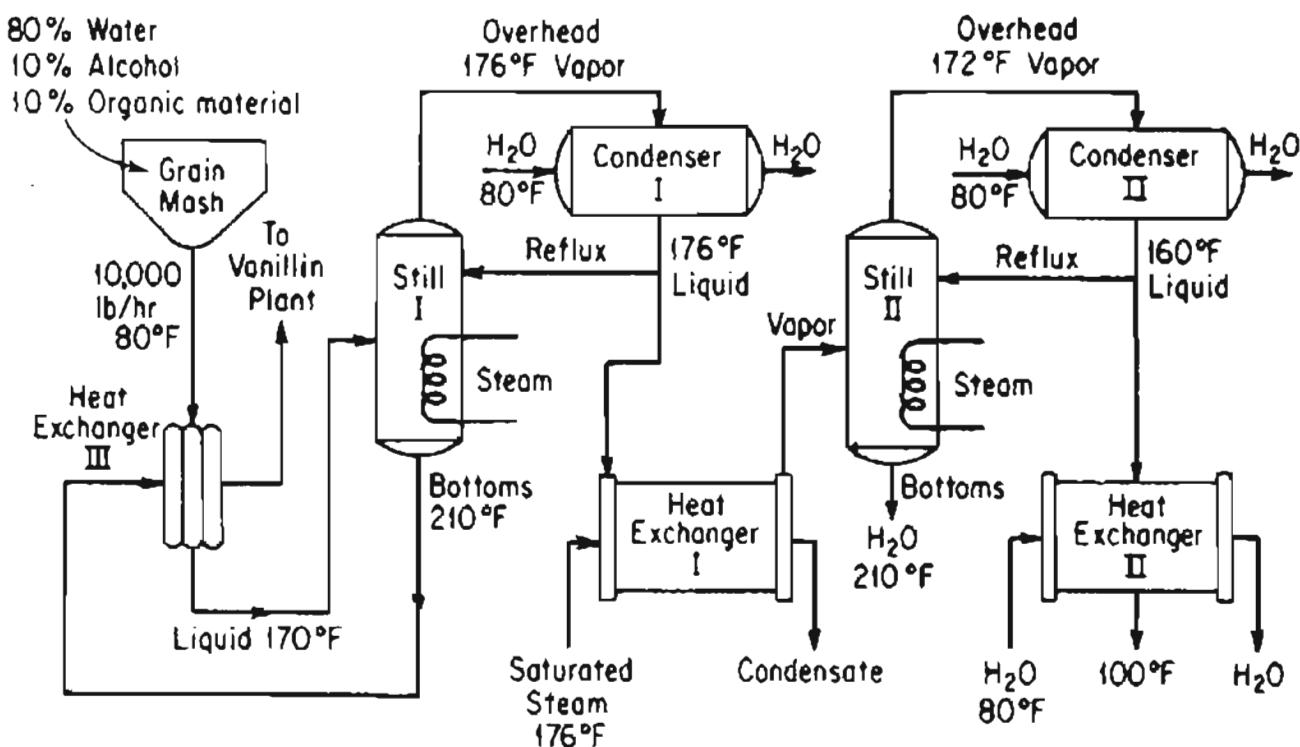

Figure P31.7
- 31.7 The Blue Ribbon Sour Mash Company plans to make commercial alcohol by a process shown in Figure P31.7. Grain mash is fed through a heat exchanger where it is heated to 170°F. The alcohol is removed as 60% by weight alcohol from the first